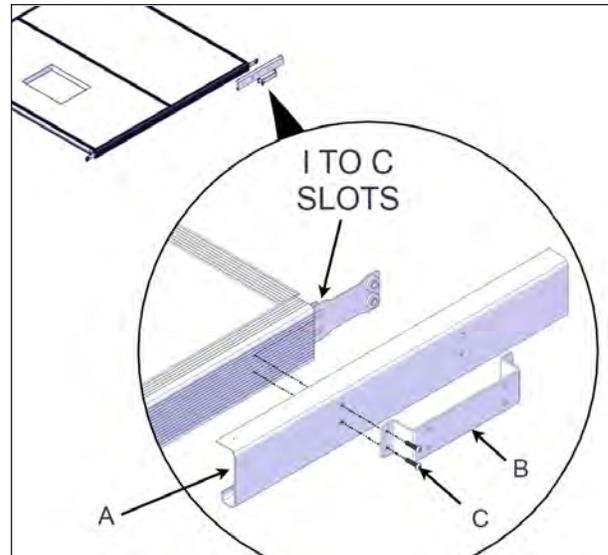

FIGURE 45: POST MOUNT BRACKET INSTALLATION
8. Refer to Figure 45 for this step. Align the holes of the support bracket (item A), the holes of the post mount bracket (item D), and the holes of the long C-channel by hand. Assemble them with two 1/4" x 1" socket head screws. Tighten to a torque value of 5 ft-lb.